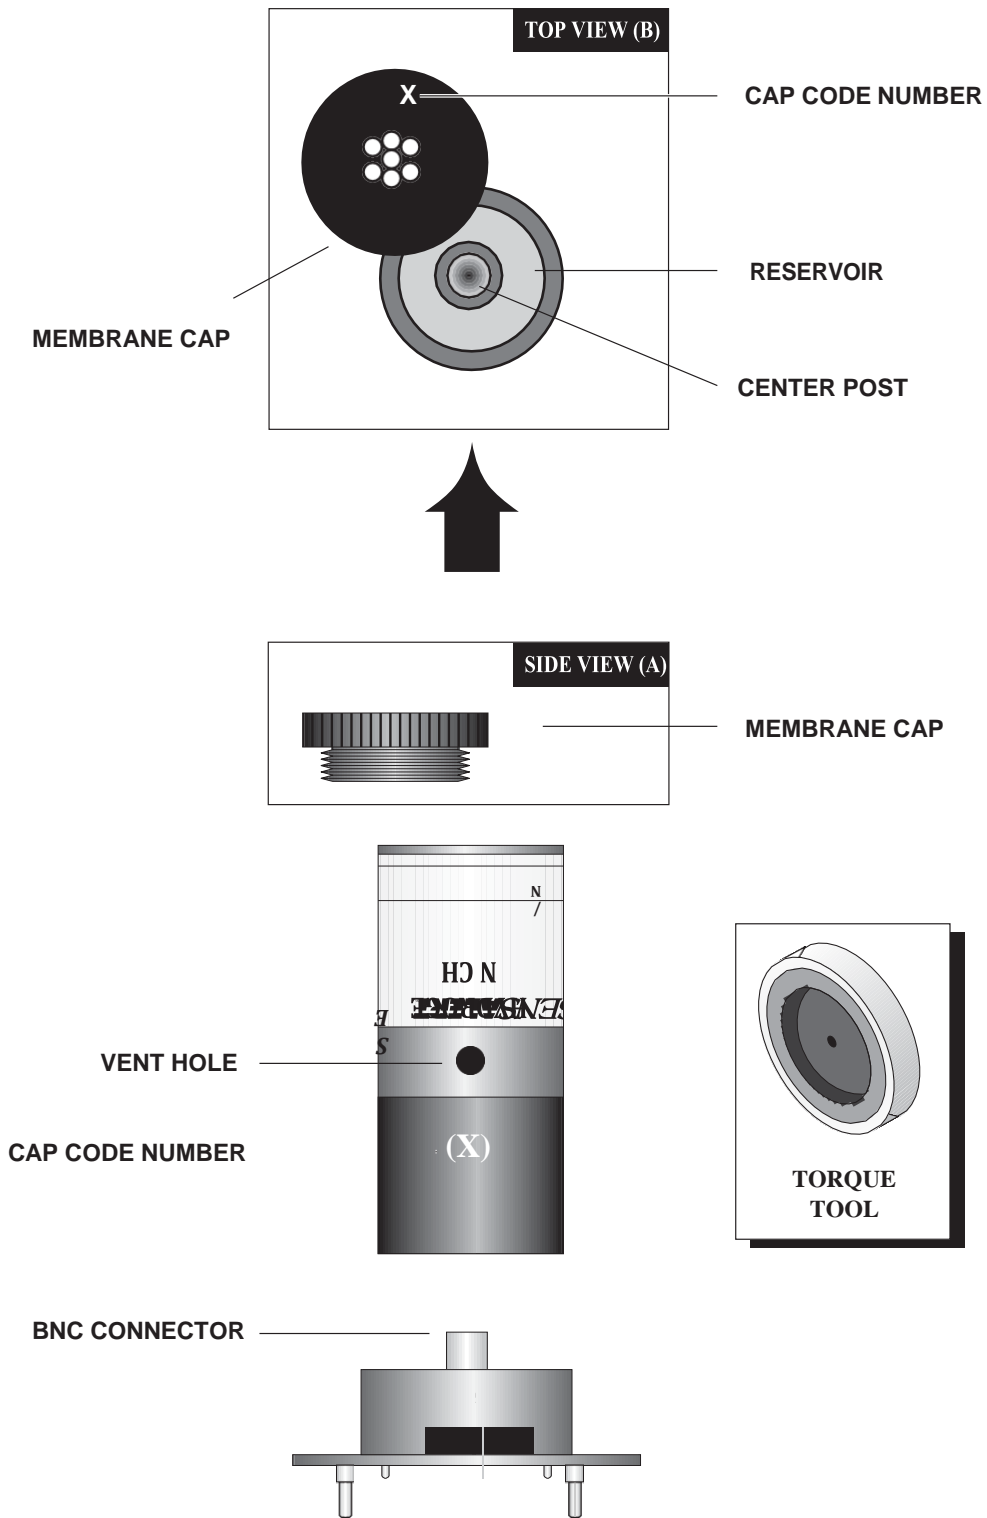

Figure 1.1
This inspection procedure should be performed every three (3) months (normal operating conditions). Refer to Figure 1.1.
- 7) Refer to Figure 1.1. With the membrane cap still facing down, inspect the cap for leakage.
Replace the membrane cap and electrolyte as follows (refer to Figure 1.1):
- 8) Remove the new membrane cap from its packaging. Ensure that the cap code number is equal to or greater than the code number in parenthesis on the outer wall of the sensor (shown as "X" in Figure 1.1).
- 14) Allow the sensor to stabilize for one (1) hour before attempting calibration.